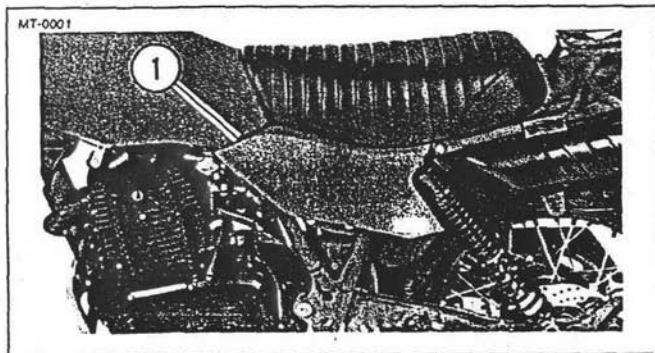

Figure 5-1. Left Side Panel
1. See Figure 5-1. Remove left side panel (1).
3. See Figure 5-1 (page 5-2). Install left side panel (1).